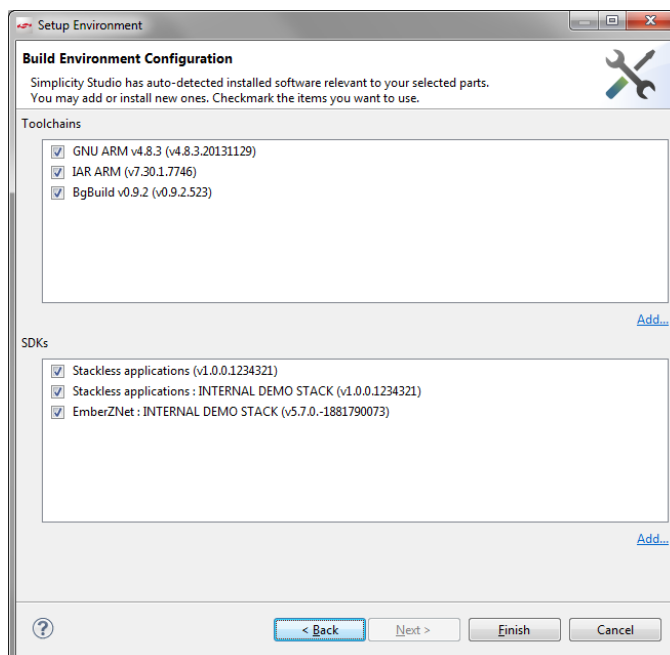

Figure 8. Build Environment Configuration
8. A Build Environment dialog is displayed that shows detected items (Figure 8). If a Toolchain or SDK is not shown, you can click **Add...** to configure it now, or configure it later from the Settings control. Adding an SDK is described in section 3, Discovering the RAIL SDK, Click **[Finish]**. The Simplicity perspective, described in the next section, is displayed.